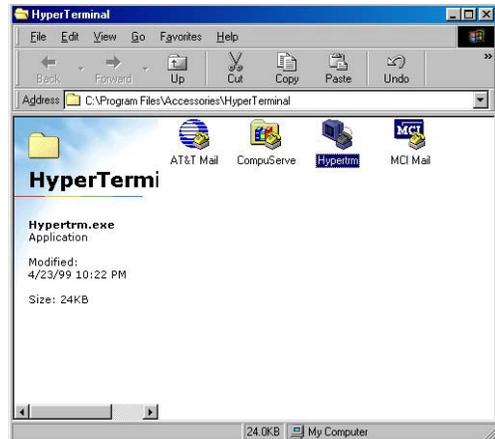

Figure 35
Purpose: Describes how to set up the unit's RS-232 and USB Com ports using Windows® HyperTerminal program (see Figures 35 to 42)
Step 1: The path is **Programs/Accessories/Communications/HyperTerminal** as shown on Figure 35.